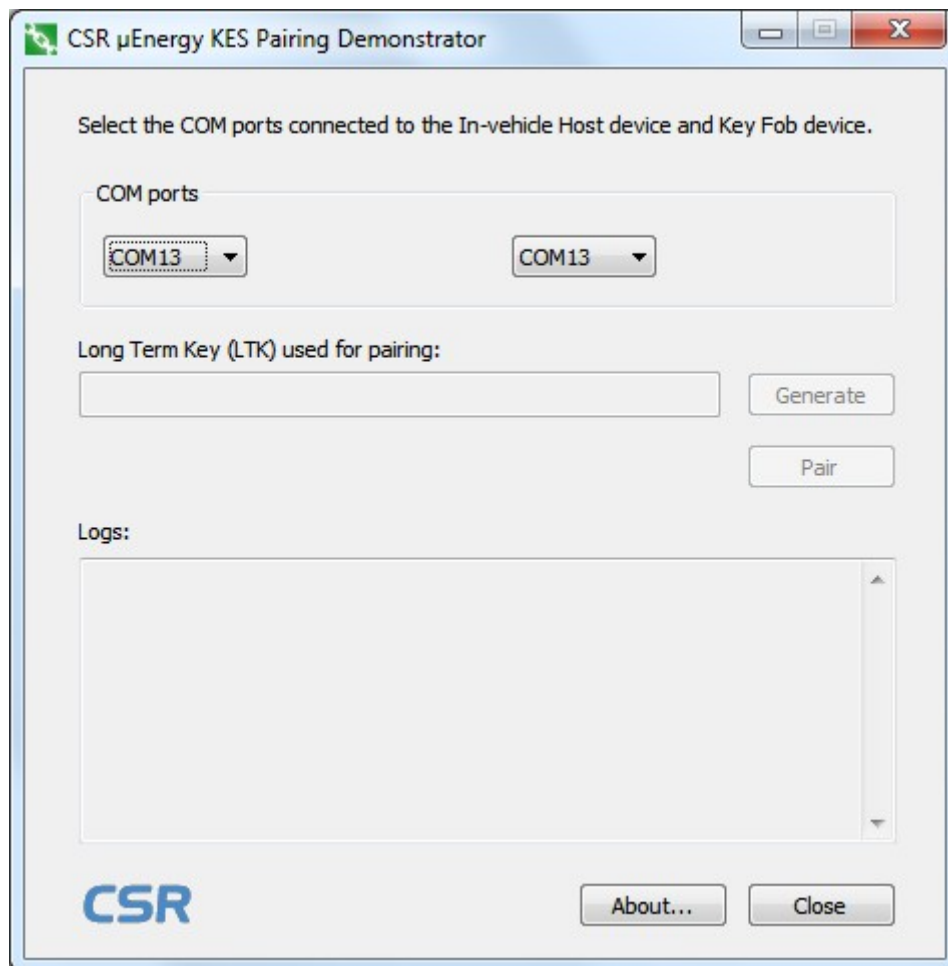

Figure 3.7: Start-up Screen
4. The start-up screen is shown in Figure 3.7.